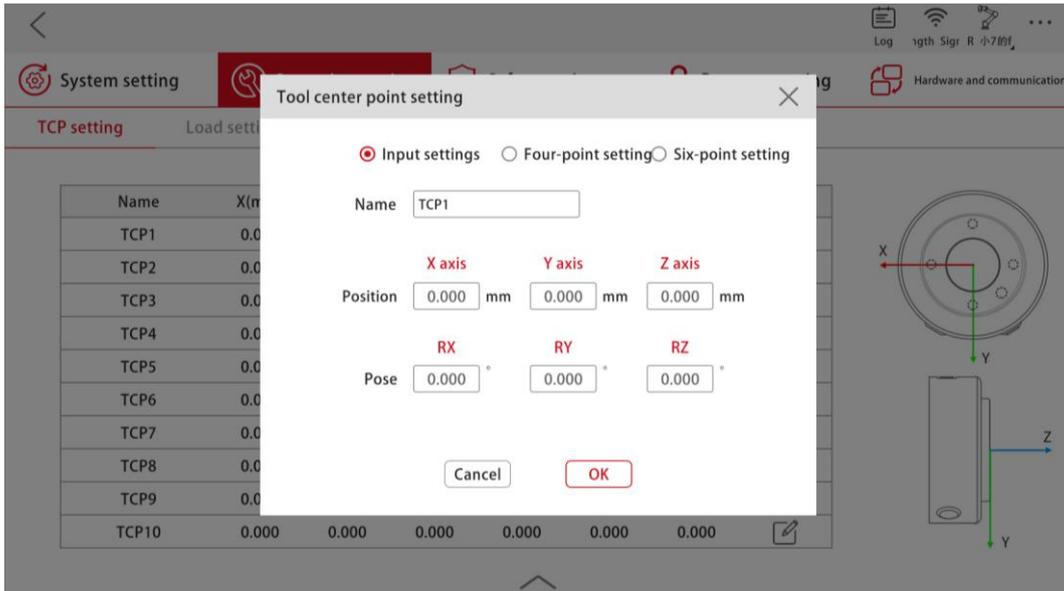

Figure 3-7 Input Setting Interface of Tool Coordinate System
(1) Manual input (as shown in Figure 3-7): Users calculate the position offset of the required tool coordinate system relative to the flange coordinate system based on their needs, fill these calculated data into the corresponding data box, and click OK to complete TCP parameter editing.